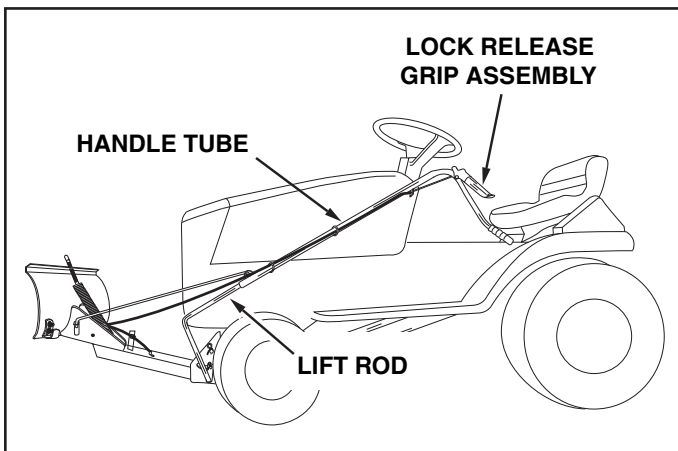

FIGURE 14
2. To unlock the blade, raise the blade to transport position. Push the lock release grip down against the handle tube to pivot the blade. Keep the grip depressed and push forward or pull back on the handle tube, sliding it along the lift rod. Release the grip to lock the blade when it is in either the right hand, the left hand or the straight ahead position. See figure 14.